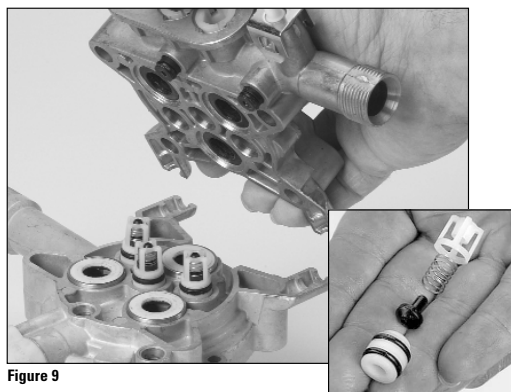

Figure 9
springs. (figure 9)
4. Check valve for wear, debris and pitting. (inset figure 9)